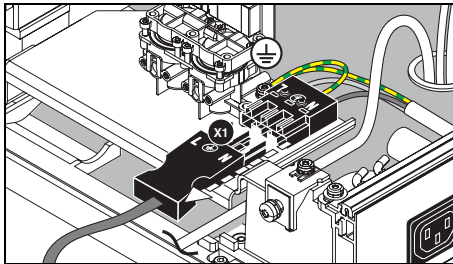

Fig. 3-5 Protective ground wire connection with test cable on the power connection terminal
1. Measure the electrical resistance of electrically conductive parts and parts connected to the protective ground wire on the dental treatment center to the protective ground wire connected to the power connection terminal (deduct the resistance of the test cable, Figure 3-5). Remove the power supply connector of the PC connected to the dental treatment center and any other network connections that ground the PC.